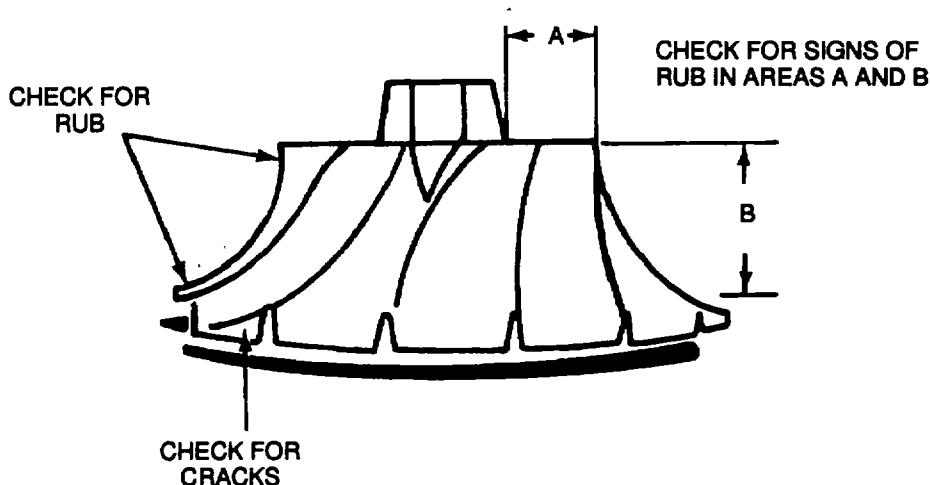

Figure 9-73.
- (7) Check the back-plate (17) for scoring and wear in the area of the thrust collar and impeller.
- (8) Check the shroud (12) for scoring, grooving, and turbine rub.
- (9) Inspect the compressor housing (3), turbine housing (7), back-plate (17), center housing (18), and shroud (12). Replace parts that are cracked or porous.
- (10) Check the impeller for cracks, nicks, scoring, and rub damage (Figure 9-73). Replace the impeller if it is cracked.